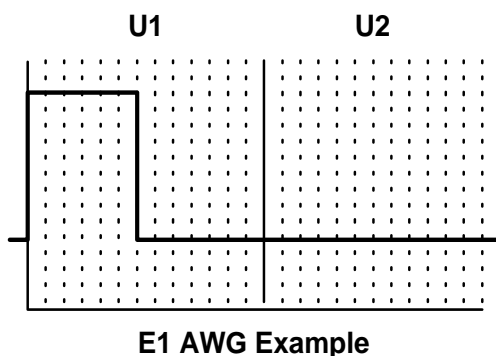

Figure 13. Arbitrary Waveform UI
In the AWG RAM, the pulse shape is divided into two unit intervals (UI). There are 12 phase sample addresses in each UI. The first UI is for the main part of the pulse and the second UI is for the “tail” of the pulse (Refer to Figure 13). A complete pulse-shape is represented by 24 phase samples. Data written in the first UI represents a valid pulse shape, while data in the second UI must be set to zero at all times. Writing values other than zero to the second UI will cause the pulse shape to be invalid.